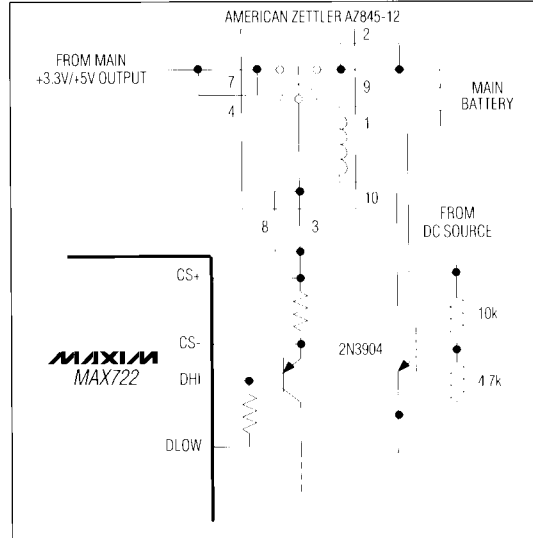

Figure 5. SMT Relay Powers Auxiliary LCD Supply
2. Power the LCD supply from the main output in linear regulator mode, but power it from the battery when the DC source is absent. This provides the best overall efficiency, but requires a relay or MOSFET switch to make the switchover (Figure 5). In most applications, the battery voltage is too low to use P-channel devices for the switchover, but a high-side supply, such as the MAX623 charge-pump regulator (Figure 6) or the system +12V supply, works well with N-channel switches. Switchover can also be accomplished using special AC/DC adapter plugs and jacks with built-in mechanical switches.